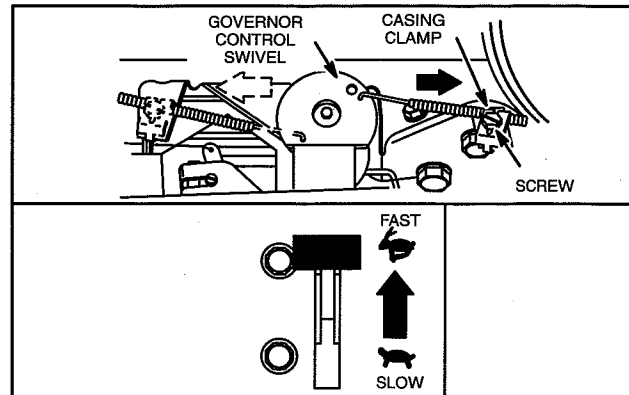

Fig. 5 – Throttle Adjustment
1. Loosen control casing clamp at governor control bracket, Fig. 5.